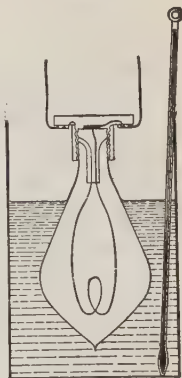

FIGURE 404.
**EXPERIMENT 105.** — Fill two jars with equal amounts of cold water, so that when an incandescent bulb is inserted in each, the water will just cover the bulb. In one jar put a 32 c.p. carbon lamp. This lamp has a resistance of about 125 ohms and allows about 1 ampere of current to pass through it. In the other jar put a 16 c.p. lamp which will have a resistance of 250 ohms and will allow about  $\frac{1}{2}$  ampere to pass through it (Figure 404). Attach the lamps to a 110-volt circuit and let current pass through until the water is warmed perceptibly. Then measure the temperature of the water in each jar. The water in the jar containing the lamp of the lower resistance will be found to be much warmer. In this lamp the current has found an easier path to travel and consequently a larger stream flows through this path, thereby requiring a greater expenditure of electrical energy to maintain this larger stream. In the 250-ohm lamp a more difficult path is encountered, hence a smaller stream flows and less energy is transformed into heat in pushing this smaller stream through the lamp.